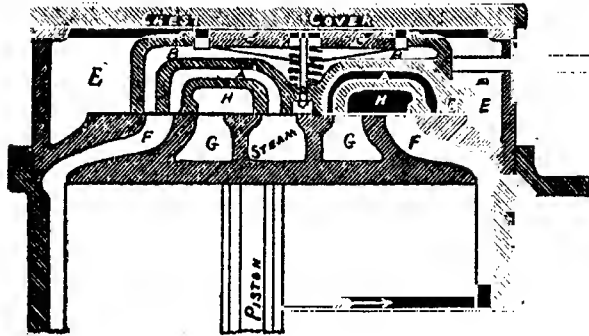

FIG. 72.—GIDDINGS VALVE.
**The Giddings Valve.**—This valve shown in Fig. 72 is both a double-ported and a balanced one. By referring to the cut it will be noticed that the valve seat contains five ports. Live steam enters the central port from the steam pipe and goes from thence to the central valve chamber and ports BBB. There are two exhaust ports, one on each side of the live steam port, and the steam ports to the